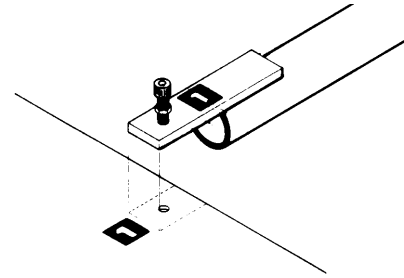

Figure 19
4. Place second set of decals on rack matching the numbers on ladder support bars. (See Figure 19.)